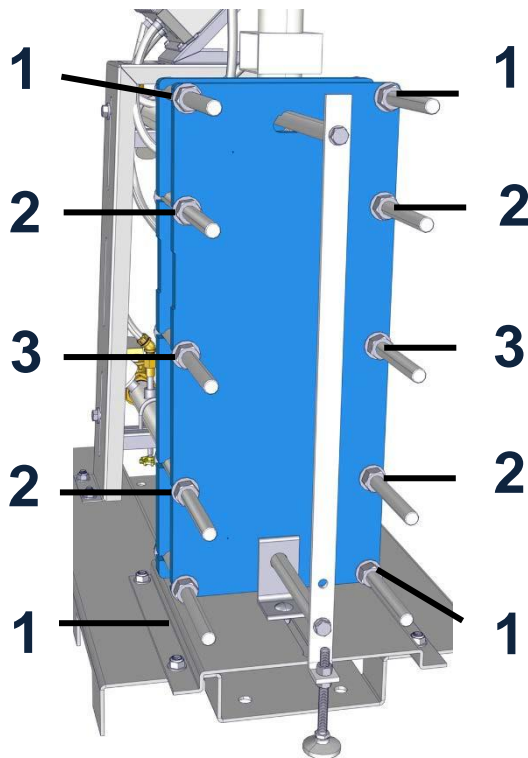

FIGURE 4-3a: Bolt Loosening Order **FIGURE 4-3b: Marking Plates w/ Red Line**
7. Loosen the clamping nuts affixing the bolts in the Follower frame plate in the order shown in Figure 4-3a.